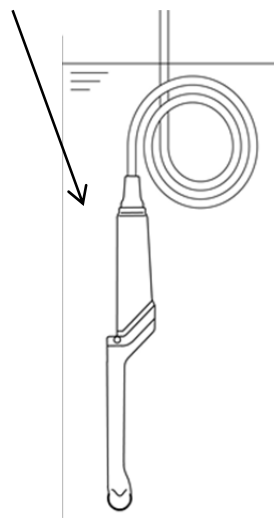

Fig.8 Immersion of the probe
- 2) Immerse the immersible part of the probe without connector into the diluted detergent solution (see Fig.8). Wipe the immersible part of the probe under the surface of the detergent solution with a soft cloth to remove all visible soil. Be sure that all grooves of the probe are implemented during the cleaning process.
- 5) Rinse the probe with running tap water for 1 minute. (alternatively: immerse the immersible part of the probe in a tray filled with deionized water/tap water (see Fig.8) for 5 min.)
- 3) Immerse the immersible part of the probe into the disinfectant (see Fig.8). Set a clock to insure the recommended contact time which is 5 minutes.
- 4) Rinse the immersible part of the probe with deionized water for 1 minute. (alternatively: immerse the immersible part of the probe in a tray filled with deionized water (see Fig.8) for 5 min.)